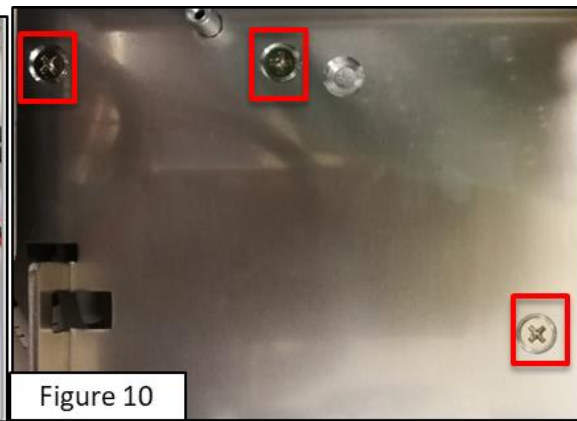

Figure 10
- Loosen the screws the back of the Relay Board (as shown in Figure 10) ◦